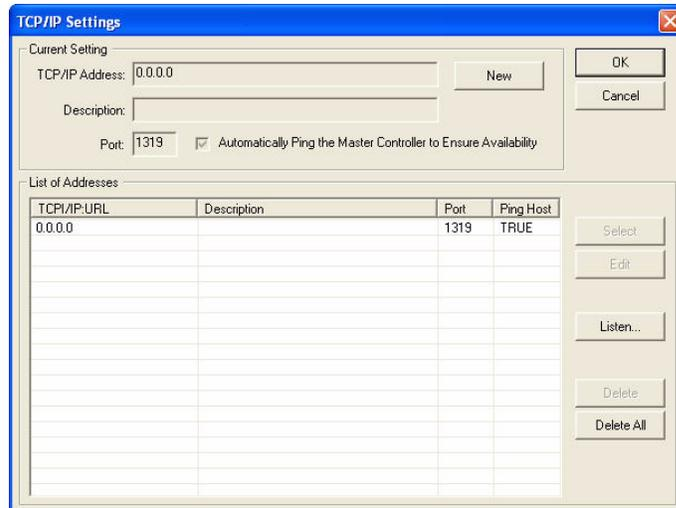

FIG. 25 TCP/IP Settings dialog
6. Click the **Edit Settings** button (*on the Communications Settings dialog*) to open the *TCP/IP Settings* dialog (FIG. 25). This dialog contains a series of previously entered IP Address/URLs and their associated names, all of which are stored within NetLinx Studio and are user-editable.